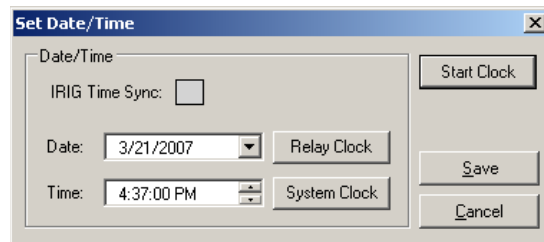

Figure 4-6 Setup Date/Time Dialog Screen
The clock is disabled when shipped from the factory (indicated by "80" seconds appearing on the clock) to preserve battery life. If the relay is to be unpowered for an extended length of time, the clock should be stopped (from Diagnostic Mode or IPScom Figure 4-6). If the IRIG-B interface is used, the hours, minutes, and seconds information in the clock will be synchronized with IRIG-B time information every hour.
1. From the IPScom Main Screen menu select **Relay/Setup/Setup Date & Time**. IPScom will display the Setup Date/Time dialog screen (Figure 4-6).